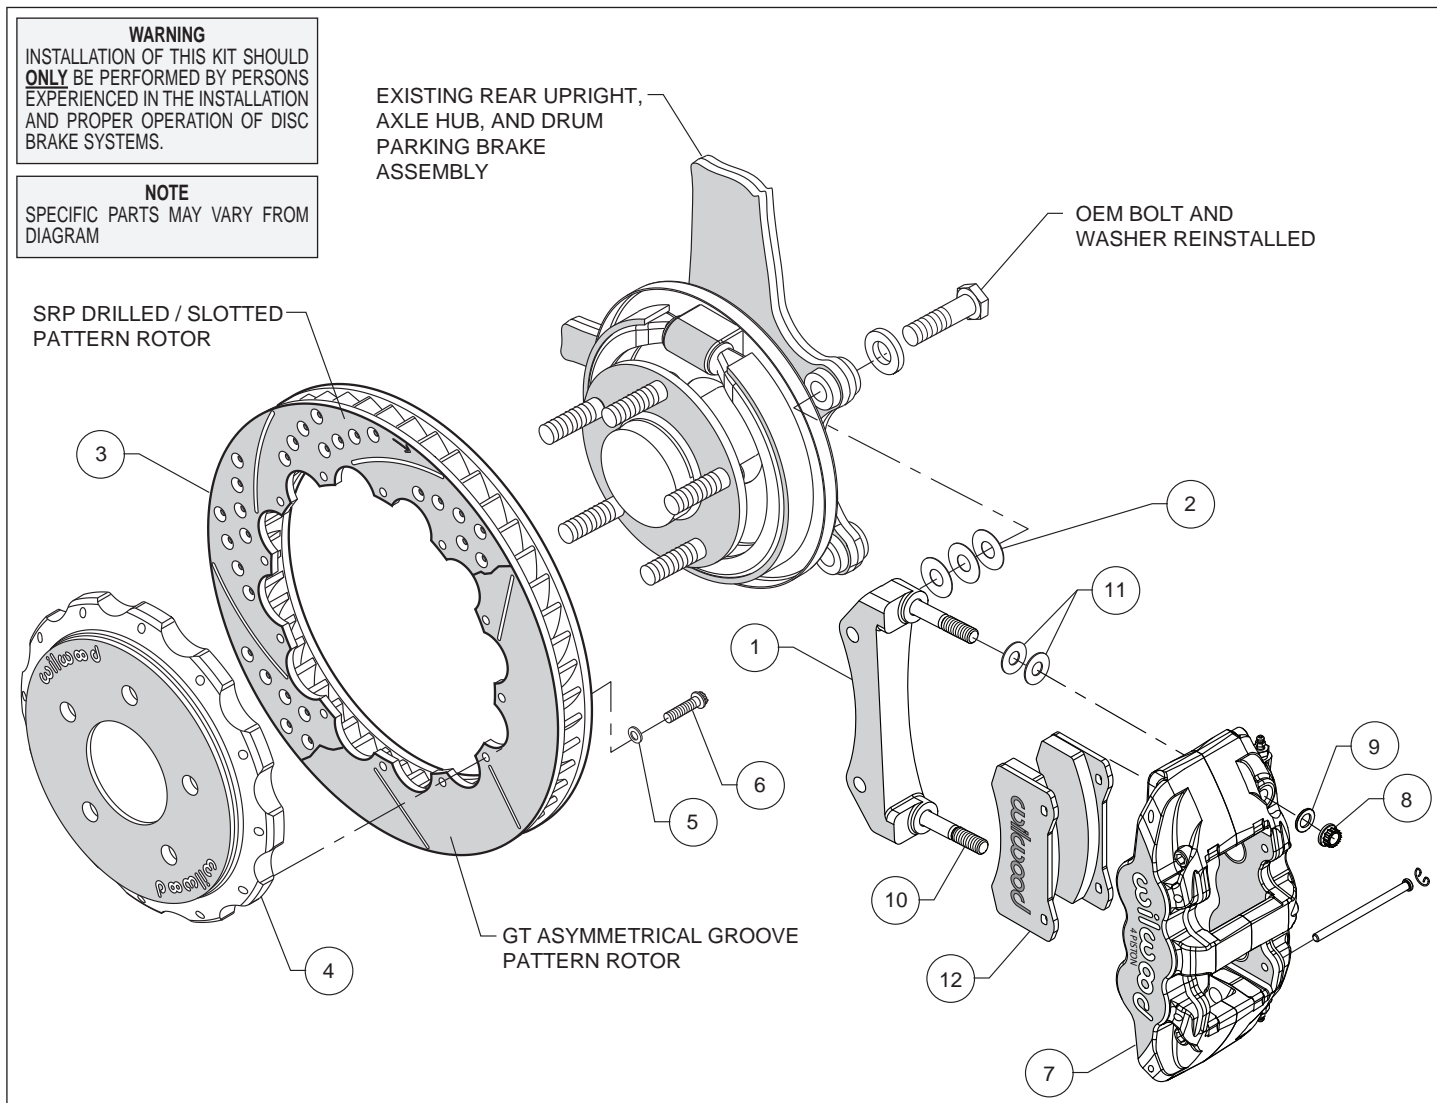
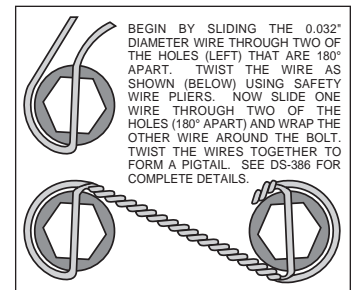

Figure 1. Typical Installation Configuration
Figure 3. Safety Wire Diagram
Assembly Instructions (numbers in parenthesis refer to the parts list and Figure 1 on the preceding pages):
- The caliper mount bracket assembly (1) should initially be installed with clean, dry threads on the mounting bolts. Orient the bracket as shown in Figure 1 and install using the saved OEM caliper mount bolts and washers, Figure 1, Photos 1 and 2. Initially place three .015" thick shims (2), on each bolt between the bracket and upright. Temporarily tighten the mounting bolts. **NOTE:** The bracket must fit squarely against the mount bosses on the upright. Inspect for interference from casting irregularities, machining ridges, burrs, etc. Later, after the caliper alignment has been checked, the mount bolts will be secured using *Loctite*[®].
- Orient the rotor (3) and the hat (4) as shown in Figure 1 and Photo 3. Attach rotor to hat using bolts (6) and washers (5). Using an alternating sequence, apply red *Loctite*[®] 271 to the threads and torque bolts to 140 in-lb. For an added measure of security, the bolts may be safety wired using standard 0.032 inch diameter stainless steel safety wire as shown in Figure 3.
- Lubricate the caliper mounting studs (10) with lightweight oil. Initially place two .030" thick shims (11) on each stud between the caliper and the bracket, as shown in Figure 1 and Photo 4. With the bleed screws pointing up, mount the caliper (7) onto the bracket (1) using lock nuts (8) and washers (9), Figure 1. Temporarily tighten the lock nuts and view the rotor through the top opening of the caliper. The rotor should be centered in the caliper, Photo 5. If not, adjust by adding or subtracting shims (2) between the bracket and the upright. Always use the same amount of shims on each of the two mounting bolts. Once the caliper alignment is correct, remove the bracket mounting bolts one at a time, apply red *Loctite*[®] 271 to the threads, and torque to 65 ft-lb.
- Remove the two pad retaining pins from the caliper (7) by carefully popping out the pin retaining clips and sliding out the pins. Insert the brake pads (12) into the caliper from the bottom, Figure 1 and Photo 6. With the friction material facing the rotor, secure the brake pads in place with the pad retaining pins and clips, Photo 7. Reinstall the caliper onto the caliper mounting bracket and temporarily tighten the lock nuts. Check that the top of the brake pad is flush with the outside diameter of the rotor, Photo 8. If not, adjust by adding or subtracting shims (11) between the caliper and the bracket. After the caliper pad height is set, torque the caliper lock nuts (8) to 47 ft-lb.